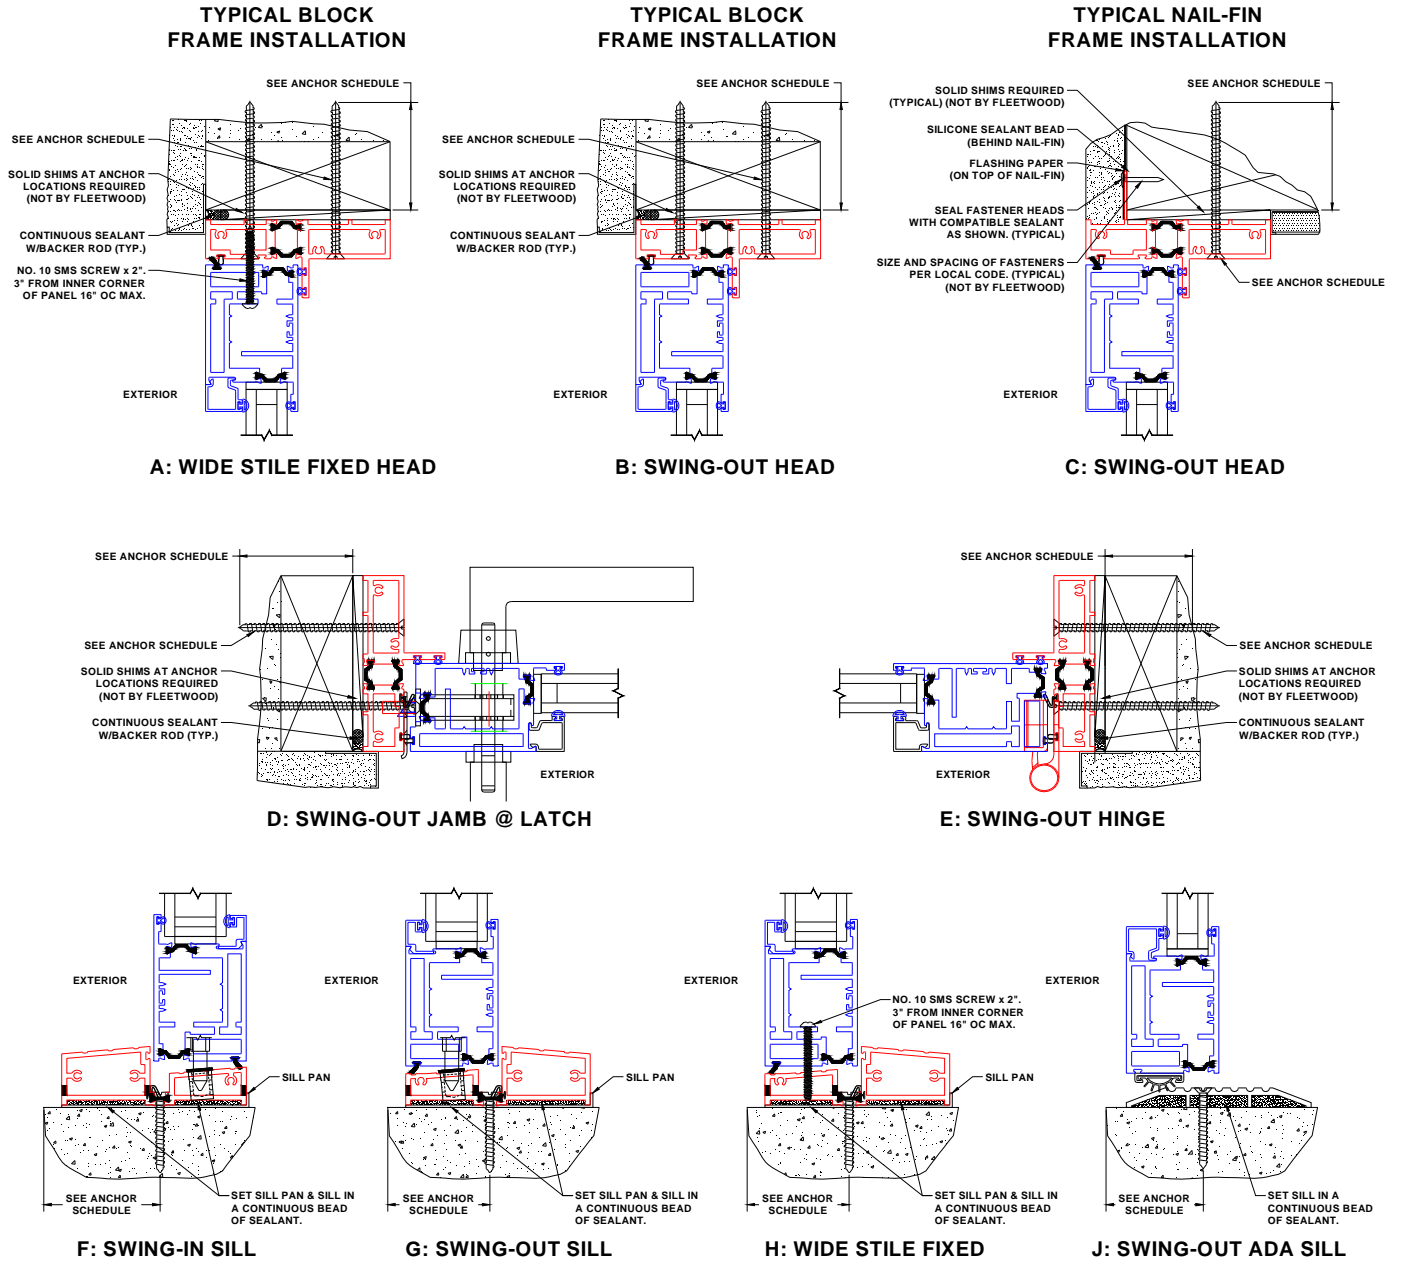

Figure 6: Anchor Location and Sealant Installation
6. Insert the door into the opening and set the sill in a full bed of sealant (See Fig. 6). Cross-measure and adjust as necessary to achieve a plumb square and level condition, as well as an even reveal around the framed opening. Shim with non-porous, non-absorbent, inorganic shims where needed. Seal all fastener heads with compatible sealant. (Only drill holes through Sill as required for design load)